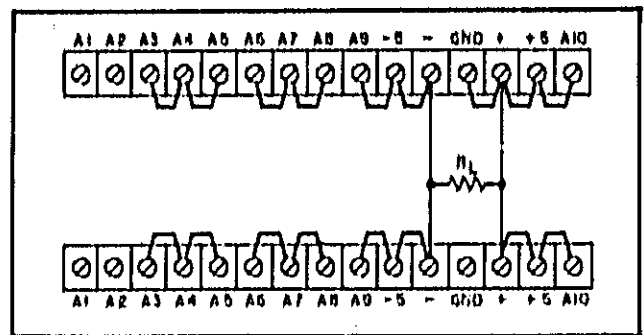

Figure 3-10, Normal Parallel Connections
**3-40 Normal Parallel Connections (Figure 3-10).** Two or more power supplies can be connected in parallel to obtain a total output current greater than that available from one power supply. The total output current is the sum of the output currents of the individual power supplies. The output CURRENT controls of each power supply can be separately set. The output voltage controls of one power supply should be set to the desired output voltage; the other power supply should be set for a slightly larger output voltage. The supply set to the lower output voltage will act as a constant voltage source; the supply set to the higher output will act as a constant current source, dropping its output